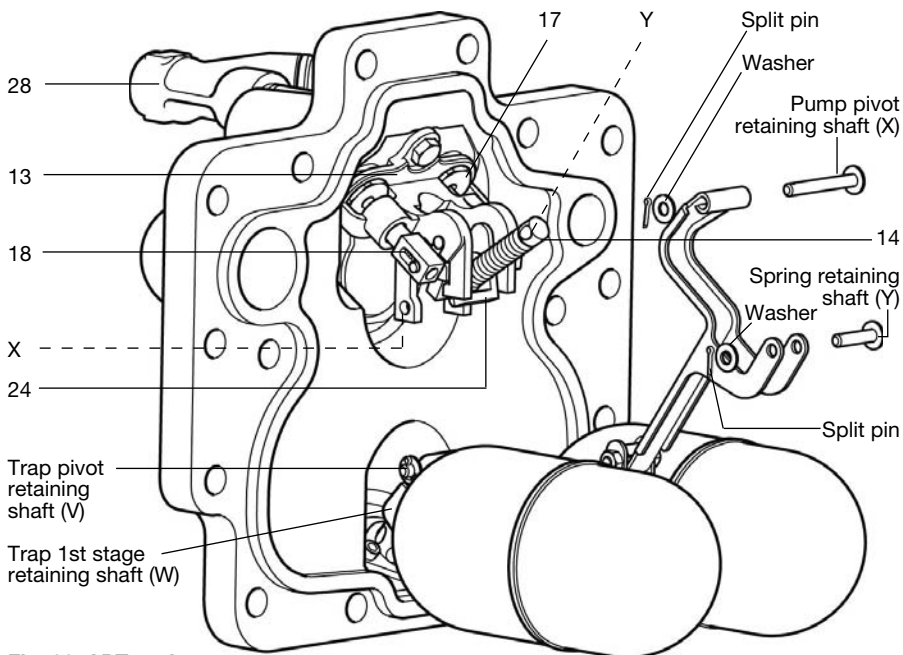
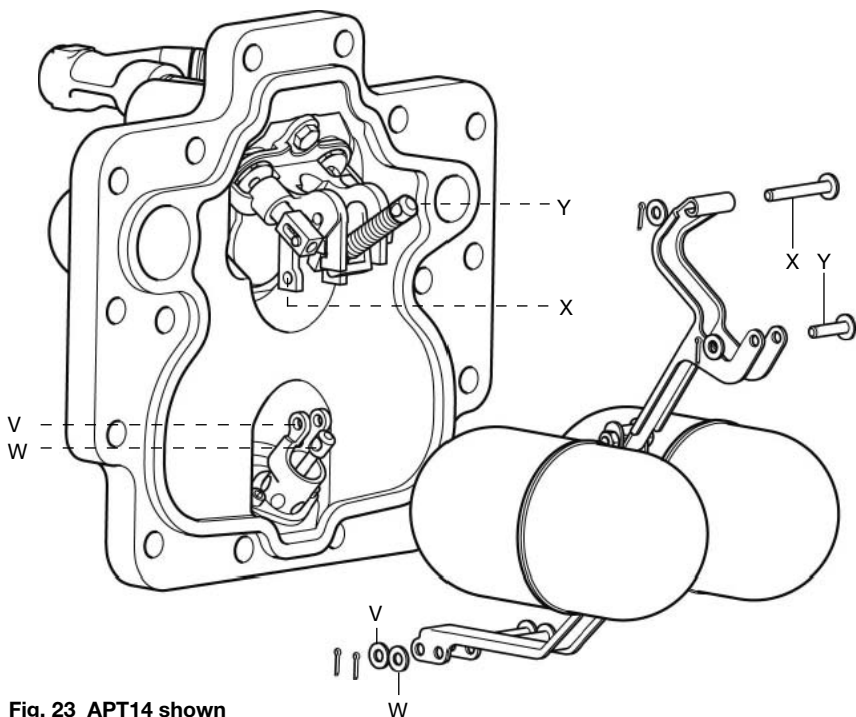

Fig. 22 APT14 shown
Fig. 23 APT14 shown
3. Remove a split pin and washer from one side of the spring retaining shaft (Y) (See Figure 22).
4. Remove a split pin and washer from one side of pump pivot retaining shaft (X).
5. Carefully slide the shafts out from their respective positions observing the orientation of the spring and actuator arm (item 14, 24) within the pump bracket (item 13) as these will need to be refitted later.
6. Remove a split pin and washer from one side of the trap 1st stage valve retaining shaft (W).
7. Remove a split pin and washer from one side of the trap pivot retaining shaft (V).
10. It is easier to fit the replacement shafts in the following sequence:- (See Figure 23).
- Y. Spring retainer** shaft length 30 mm for both APT14, APT14HC and APT14SHCleaving the spring retaining shaft until after the spring and actuator arm have been correctly aligned and located within the slot of the pump bracket (item 13).
14. Carefully reconnect the motive steam supply and the exhaust lines to the connections marked (S) and (E). The APT14, APT14HC or APT14SHC is now ready to recommission.
15. Make sure that the Spirax Sarco motive supply strainer (with 100 mesh screen) is reinstated to the motive supply connection (item 28, Figure 22).